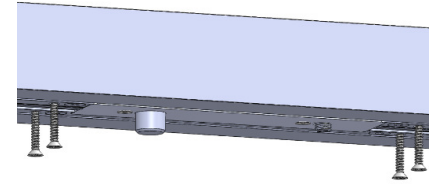

Figure 5:
5. Secure top pivot to header with #10 screw min. 4" long (not by Fleetwood). See Figure 5 for illustration.